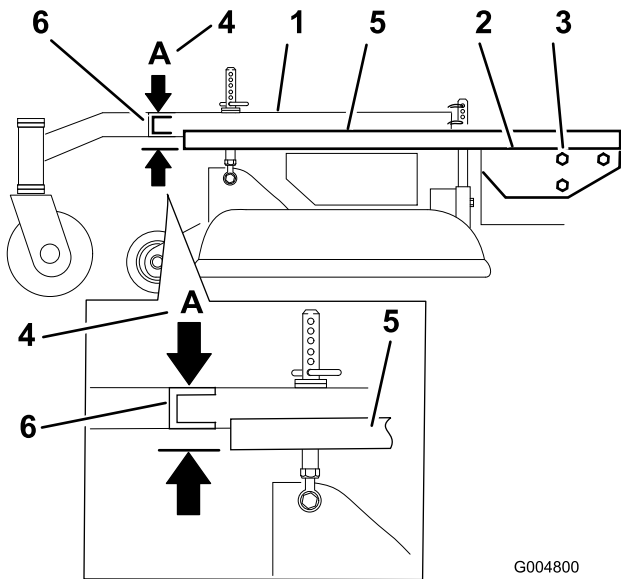

Figure 52
3. Place a long straight edge on top of the engine deck as shown in Figure 52.
4. At the carrier frame cross channel, measure the height at location **A** (Figure 52). This measurement must be 1-5/16 inch (33 mm), plus or minus a 1/4 inch (6 mm).
6. Loosen the carrier frame mounting bolts on both sides of the machine (Figure 52).
7. Align the carrier frame and engine deck to match 1-5/16 inch (33 mm), plus or minus a 1/4 inch (6 mm) at location **A** (Figure 52).